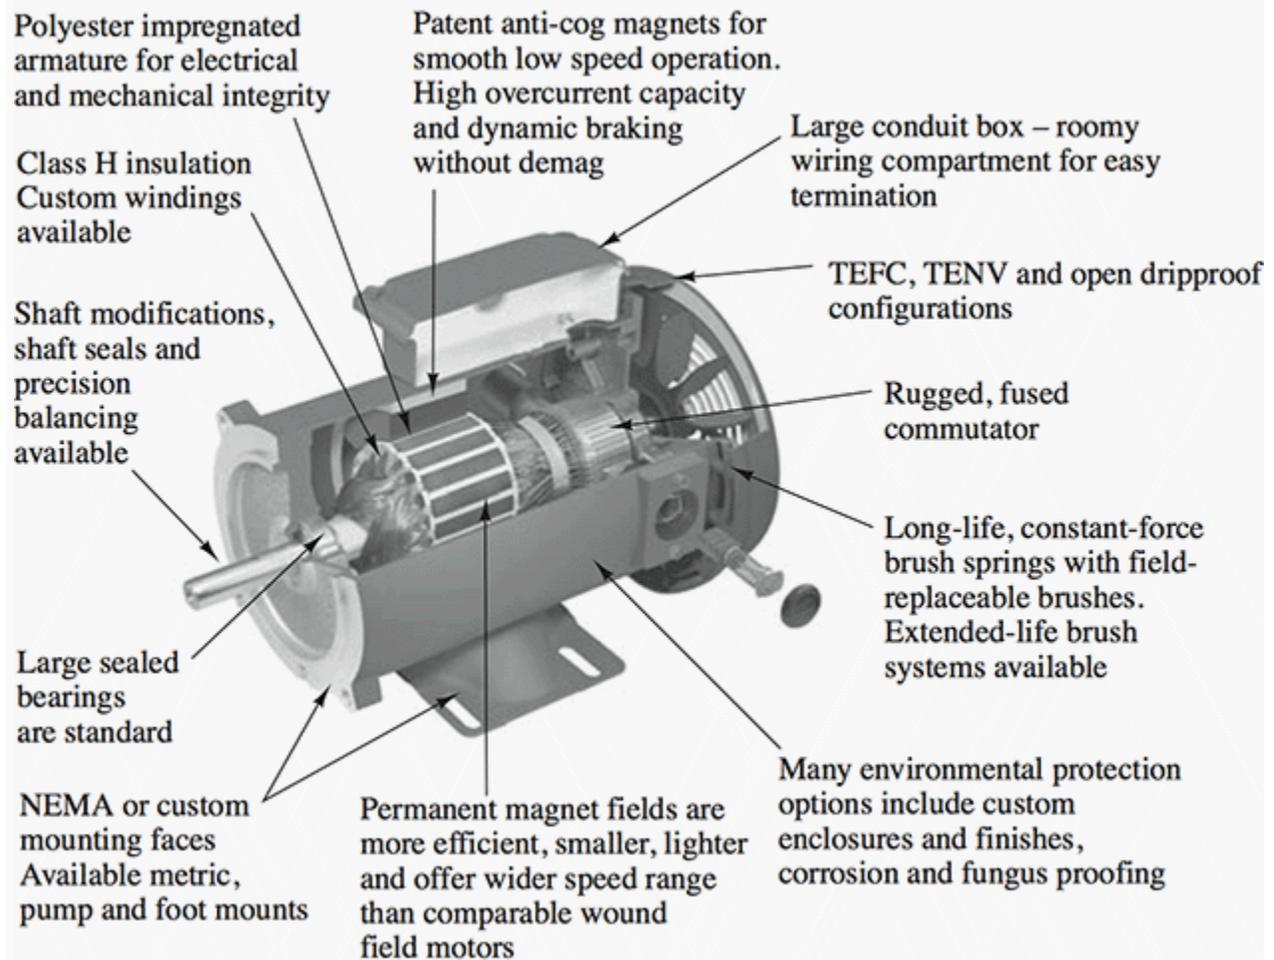

Figure 1 – DC machine
**Figure 1** depicts a two-pole machine in which the stator poles are constructed in such a way as to project closer to the rotor than to the stator structure. This type of construction is rather common, and poles constructed in this fashion are called **salient poles**.
**Figure 1** is a photograph of the same type of machine. Note the salient pole construction of the stator and the slotted rotor. As previously stated, the torque developed by the machine is a consequence of the magnetic forces between stator and rotor poles.